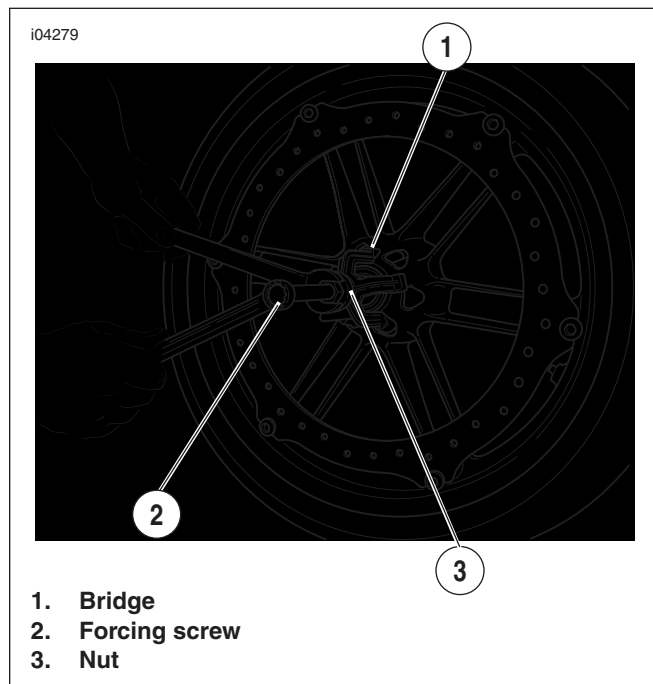

Figure 2-10. Remove the Bearing
8. See Figure 2-10. Place the bridge (1) against the wheel hub.
9. Hold the forcing screw (2), and turn the nut (3) clockwise until the bearing is free of the hub.
10. See Figure 2-10. Loosen the nut (3), and back off the bridge (1). Hold the forcing screw (2) while holding the collet to remove the forcing screw from the collet.